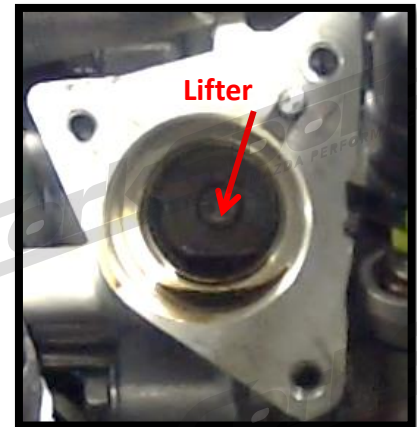

Figure 1i
- i) Carefully remove the fuel pump housing from the car. Between the pump and the camshaft is a lifter, or bucket. Make sure the lifter stays in the motor (Figure 1i).
If the lifter comes out with the pump, clean it off with a clean rag, lubricate it with clean motor oil, and re-install it back into the head with the flat shiny surface touching the camshaft (correct lifter orientation shown in Figure 1i).